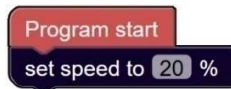

Figure 3
1. You should include the Ozobot Editor block shown in Figure 3 at the beginning of your program, perhaps right after the *Program start* block or in a function where you initialize a number of things required by your solution to the challenge. Why? When ORA is moving at a slower speed, say 20% or less, you have more time to prevent an impending collision. Of course, this also allows a person more time to move out of the way of ORA's moving arm! This is particularly important throughout the development process while creating your program, when you are more apt to make errors in coordinate values in *move to coordinates* blocks.